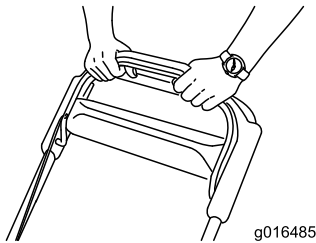

Figure 22
3. Hold the blade-control bar against the handle (Figure 22).